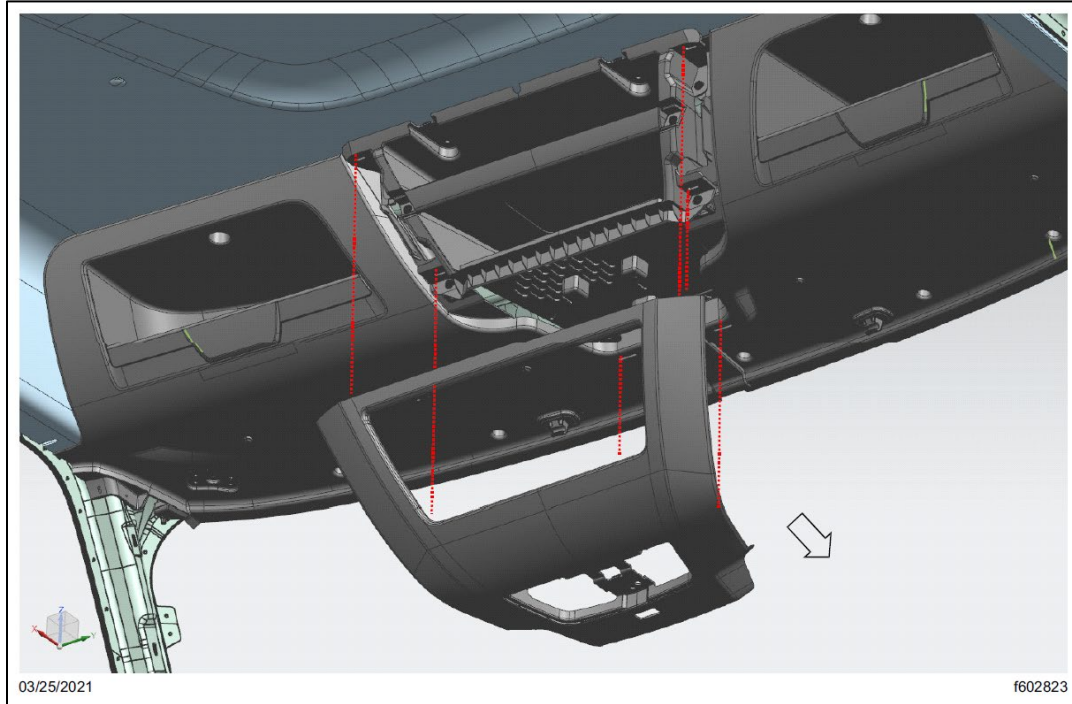

Fig. 31, Position and Attach Center Bezel
- 7.6. Place the center bezel by inserting the pillar clips into the slots in the center overhead storage bin, and the LH and RH side overhead storage cabinets. See Fig. 31.